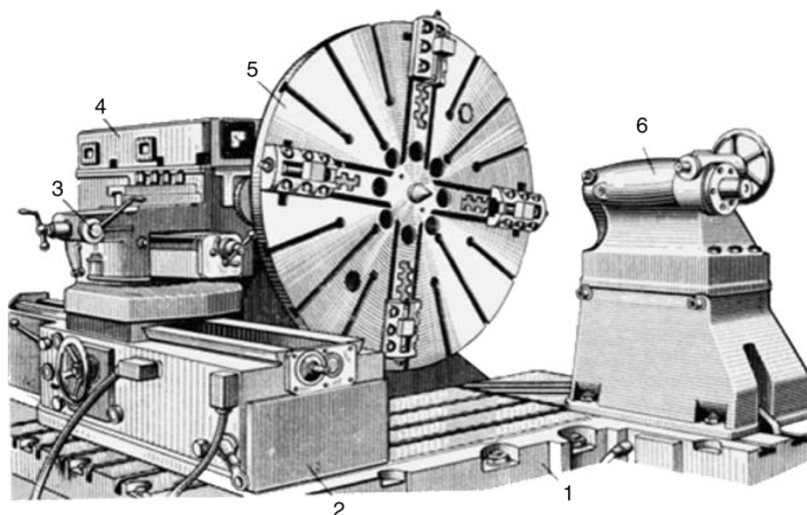

FIGURE 3.14 Facing lathe.
- It consists of the base plate (1), headstock (4) with faceplate (5), bed (2), carriage (3), and tailstock (6) (Figure 3.14).